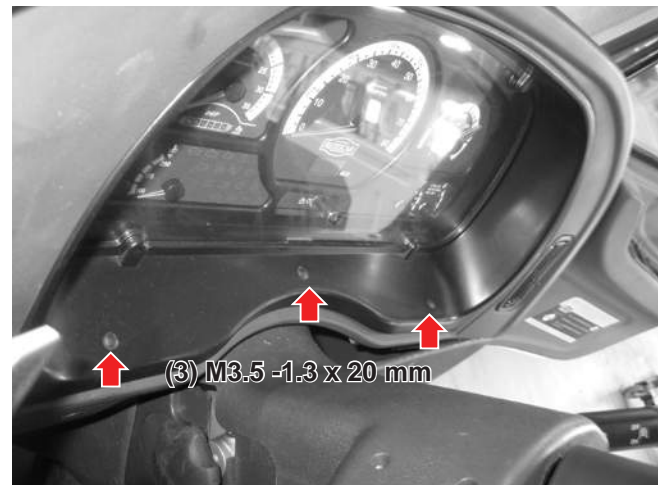

Figure 28-2
3. Hook the upper tabs under the upper perimeter of the cluster cut-out in the instrument panel (see *Figure 28-2*).
4. Push the lower portion of the cluster forward, ensuring the cluster bezel locates securely in the cluster cut-out in the instrument panel (see *Figure 28-2*).
5. Install the three screws, ensuring that they are aligned with the spring nuts (see *Figure 28-2*).
6. Install the three screw plugs (see *Figure 28-2*).